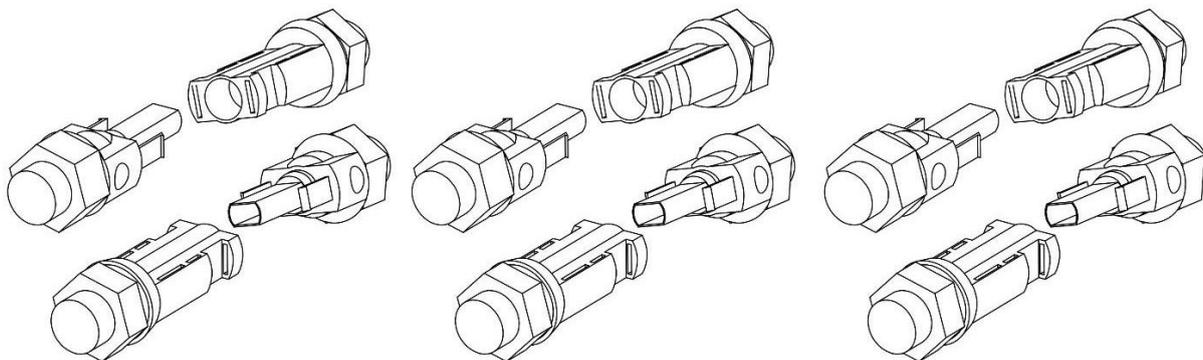

Figure 2.14 The DC connector is inserted into the positive and negative input of the hybrid inverter equipment.
4) Finally, insert the photovoltaic DC connector into the positive and negative input of the Hybrid inverter, as shown in figure 2.14.